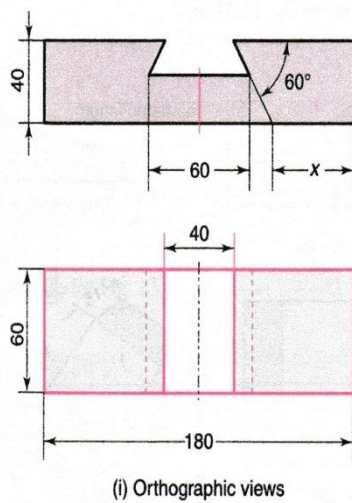

**Fig. 13.54** I-block
Draw the isometric view of an I-block shown in Fig. 13.54 (i).
**Solution** Refer Fig. 13.54 (ii)